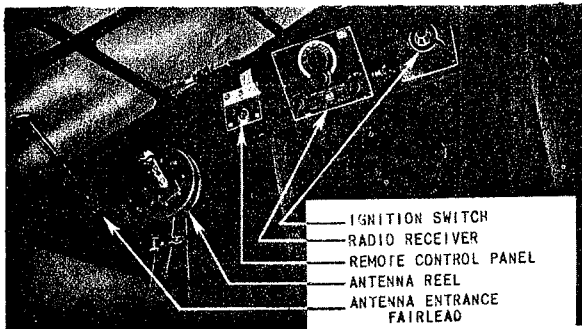

Figure 12—Upper Left Side of the Cockpit, Model L-4A
e. UPPER LEFT SIDE. (See figure 12.)—On the model L-4A, the antenna entrance fair-lead, the antenna reel, the remote control panel, the radio receiver, and the ignition switch are located on the upper left side. These are all accessible from either seat.
a. Ignition switch "OFF." (See figures 12, 13 and 17.)